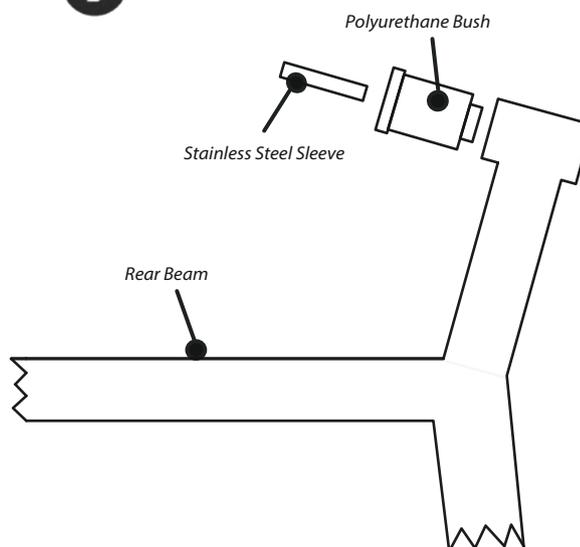

Figure 1 - how the polyurethane bush fits in the rear beam (top view)
3. Press the Powerflex bush into the vacant hole until flush with the beam, matching the orientation of the original bush. This should be from the inside of the beam outwards as shown in Fig 1.